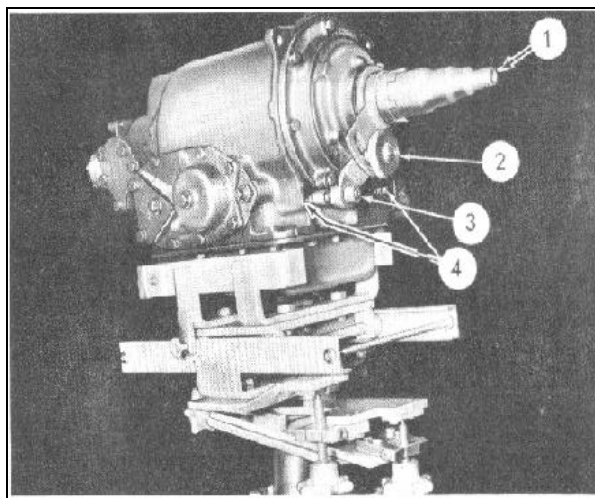

FIGURE 136
1. Install the Spline Aligning Fixture J-4283 in to the transmission, Figure 136, and position the splines